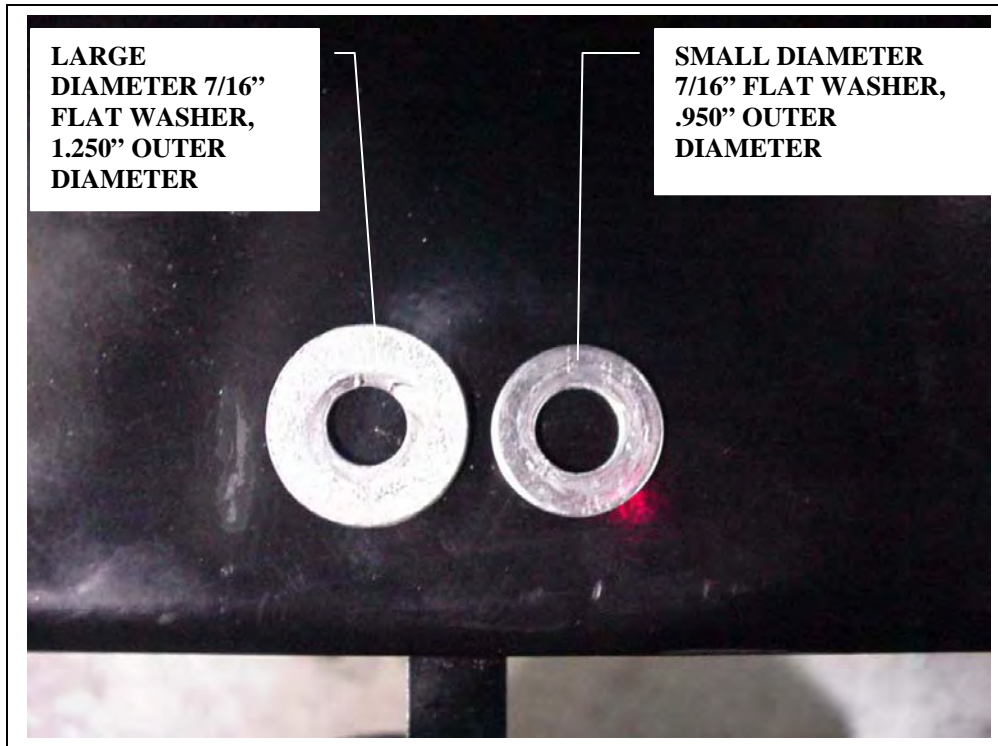

Figure 6A, Bumper center installation, washer diameters
- Install the bumper center section to the bumper brackets using the hardware provided. Slip the bumper over the frame brackets and install the 7/16 bolts, lock washers and washers. Be sure to use the smaller of the two 7/16 flat washers on the ends, there should be 8 of these. Install the 7/16 bolts, lock washers and larger flat washers in the bottom of the bumper. The outer diameter of the small flat washer is .950" and the outer diameter of the larger flat washer is 1.250". Use the smaller flat washers on the ends to allow for a flush fit when the end caps are bolted on. **See figure 6A and 6B.** When all 10 bolts are installed, torque them to the torque table specs at the beginning of this manual.